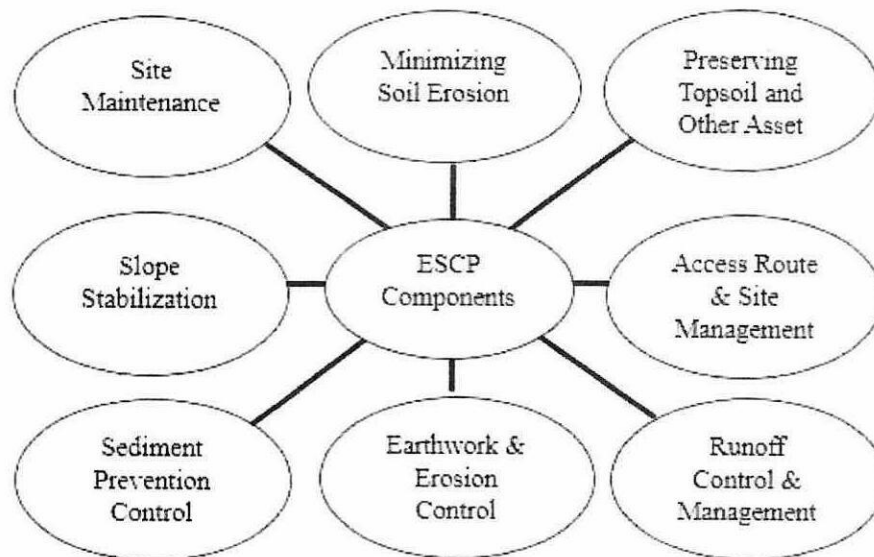

Figure Q3.1 This figure shows the ESCP components.
Q3 (a) Erosion and Sediment Control Plan (ESCP) consisted of EIGHT (8) components as illustrated in **Figure Q3.1** Explain briefly any **THREE (3)**.